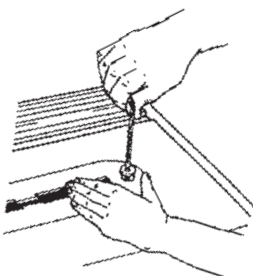

Figure B-79
47. First tighten the rear screw. Then the front of the insert will be sprung slightly above the table. Level the insert by placing your hand on the front of the insert, as in Figure B-79, and slowly turning the front screw until it draws the front of the insert flush with the worktable surface.